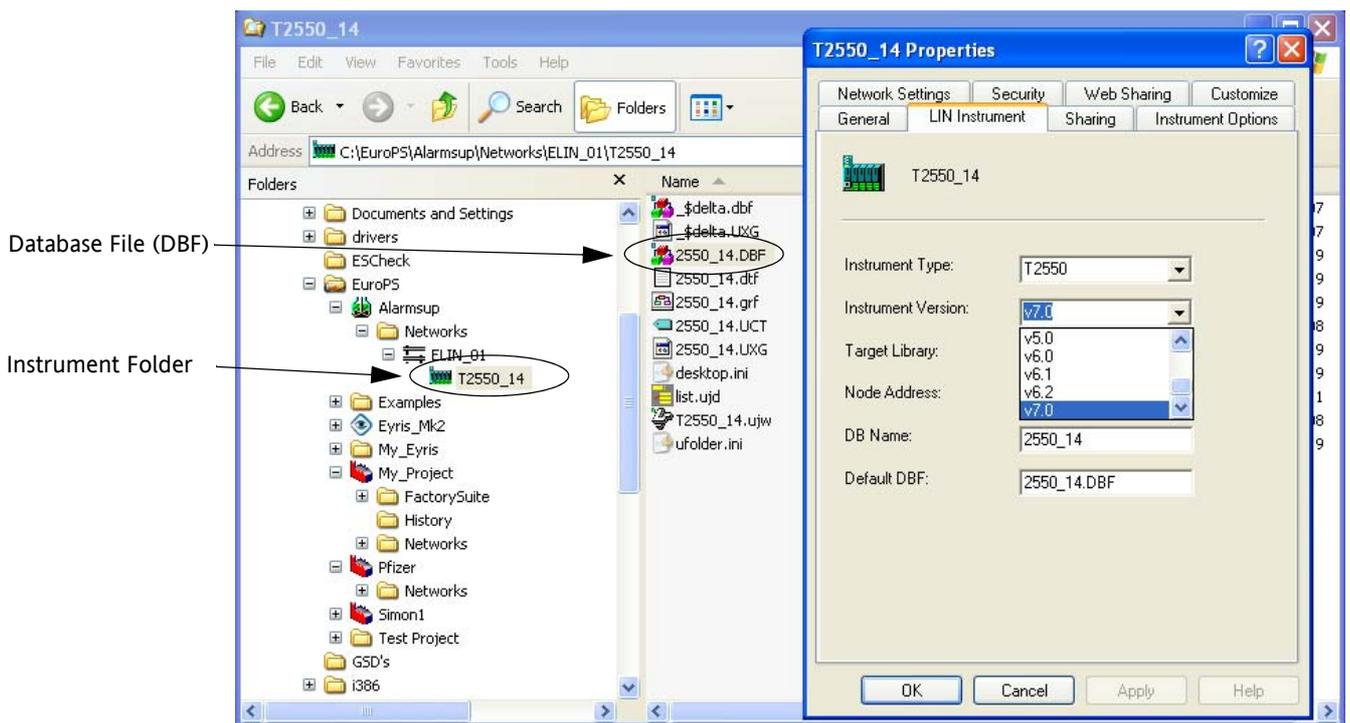

Figure 3.8a Instrument Folder and Properties dialog box
2. Locate the Instrument folder which contains the database(.DBF) to be upgraded. It is normally found in the C:\EuroPS\Project name\Networks\Network name\Instrument name' folder. As an example, using an instrument name of 'T2550\_14' and a database name of '2550\_14.DBF' is shown in figure 3.8a below.
3. Referring to figure 3.8a above, right click on the Instrument folder and select the 'Properties' item which opens the LIN Instrument Properties dialog box. Select the 'LIN Instrument' tab and from the pick list in the 'Instrument Version' drop down box, select Version 7.0 or greater (V5.0 or greater for Visual Supervisor) and click 'OK',.